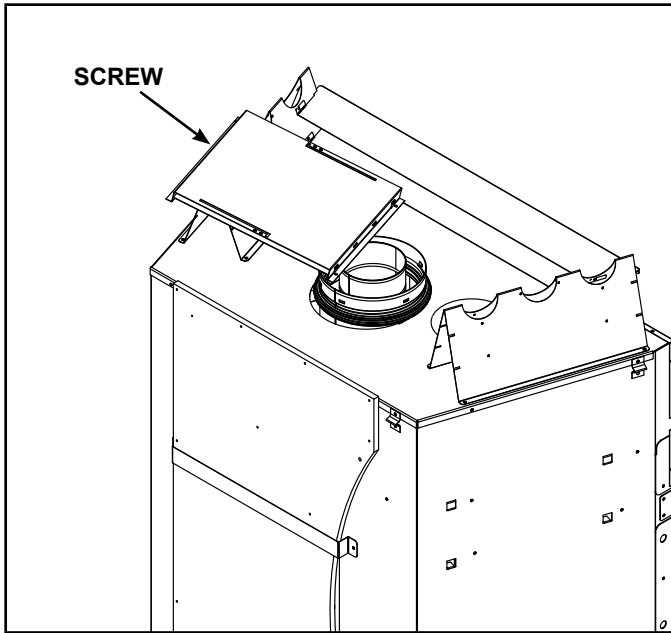

Figure 4.7 Remove Heat Shield
1. Remove the screw that secures the heat shield to the top standoff. See Figure 4.7.